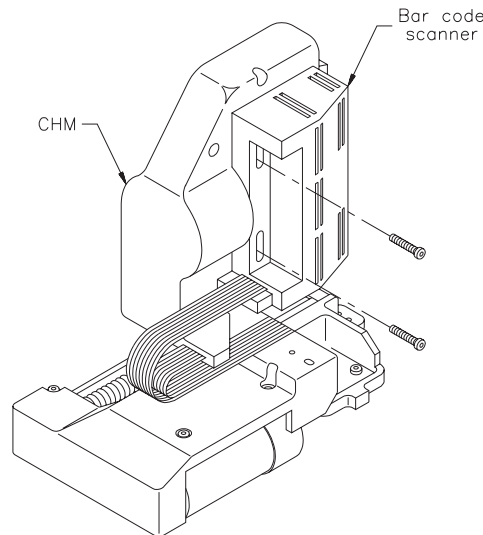

Figure 4 Replacing the bar code scanner screws
2. Replace the screws that attach the scanner to the CHM (see Figure 4). Make sure the screws are positioned at the bottom of each screw slot, as shown.